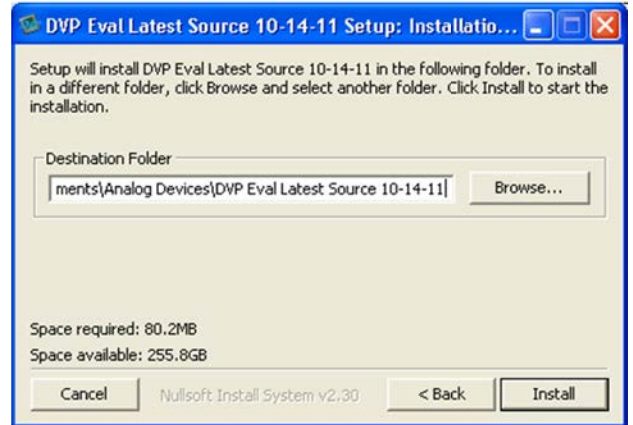

Figure 4. Installation Destination for DVP Eval Software
4. Select an installation destination folder and click the **Install** button (see Figure 4). It is recommended to use the default destination folder. Selecting a different destination folder can cause compatibility issues with some versions of Windows® OS.